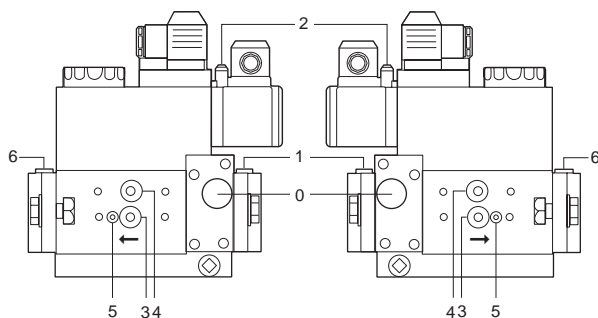
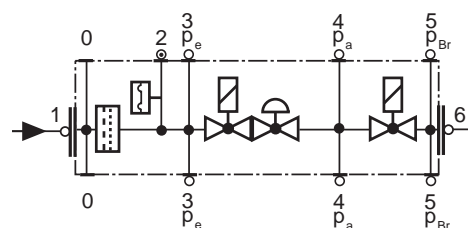

Fig. 26
Fig. 27
- Change the filter if the pressure difference between pressure connection 1 and 3 (Fig. 26-Fig. 27) is  $\Delta p > 10$  mbar.
- Change the filter if the pressure difference between pressure connection 1 and 3 (Fig. 26-Fig. 27) is twice as high compared to the last check.